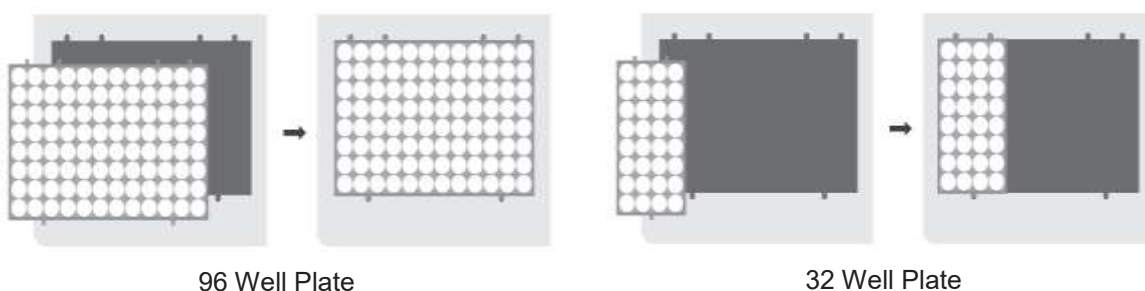

Figure 8: Positioning of the 96 or 32 well plate on the plate loader
5. Place the extraction plate on the plate loader. Note that the plastic cavities needs to fit in their position (Figure 8).